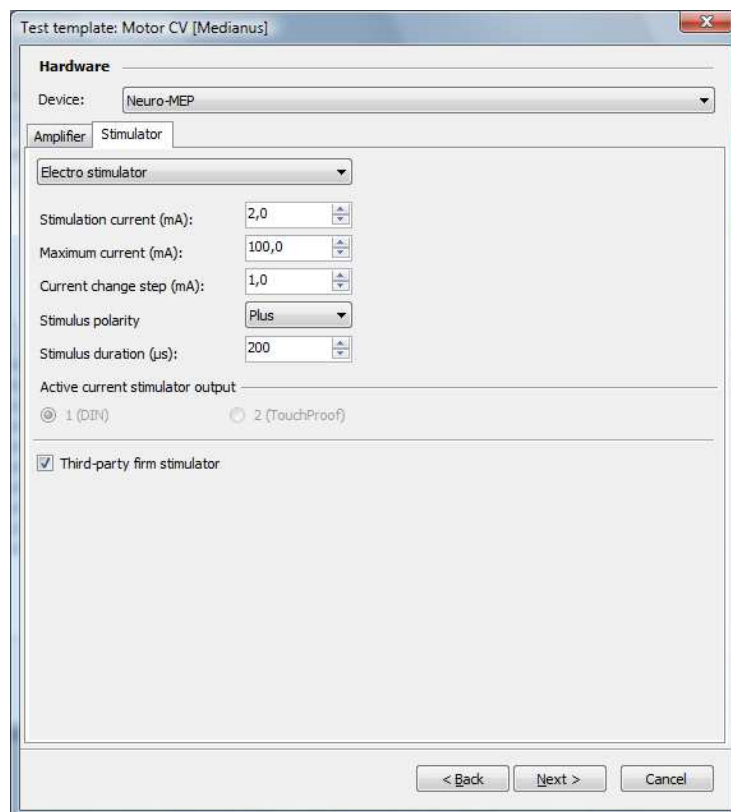

Fig. 10. The acquisition start window from external stimulator.
3. Run **Neuro-MEP.NET** software, execute **Setup|Tests templates|Setup** menu command, select the required test template, press “Change” button and check the “Third-party firm stimulator” check box on “Hardware|Stimulator” page (see Fig. 10). This step should be executed once for each template where the external stimulator is planned to be used. If you do not want to change the template, create the test and perform the analogous settings in it.
Keep in mind that the “Third-party firm stimulator” check box (Fig. 10) must not be checked!